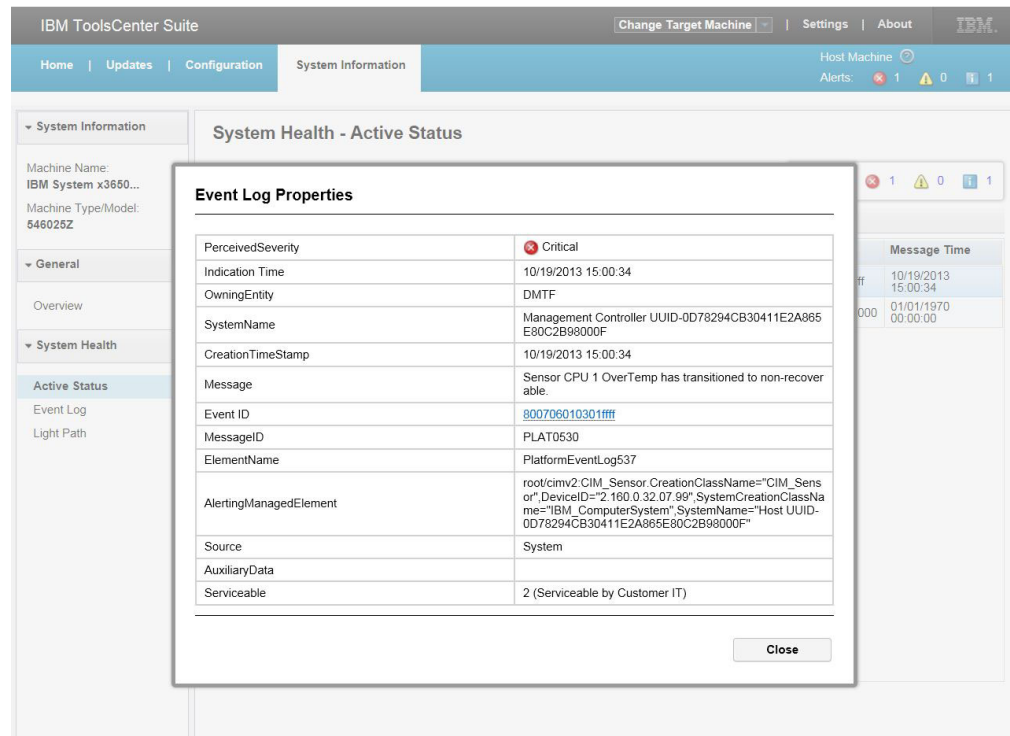

Figure 60. System Health - Active Status Property example
- In Active Status table, you can click a row to view details for that row. See Figure 60 on page 73.